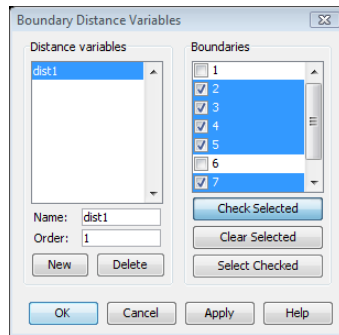

Figure 4-64: Specifying boundary distance variables.
- 5 In the **Boundary Distance Variables** dialog box, click the **Check Selected** button (see Figure 4-64 on page 295).